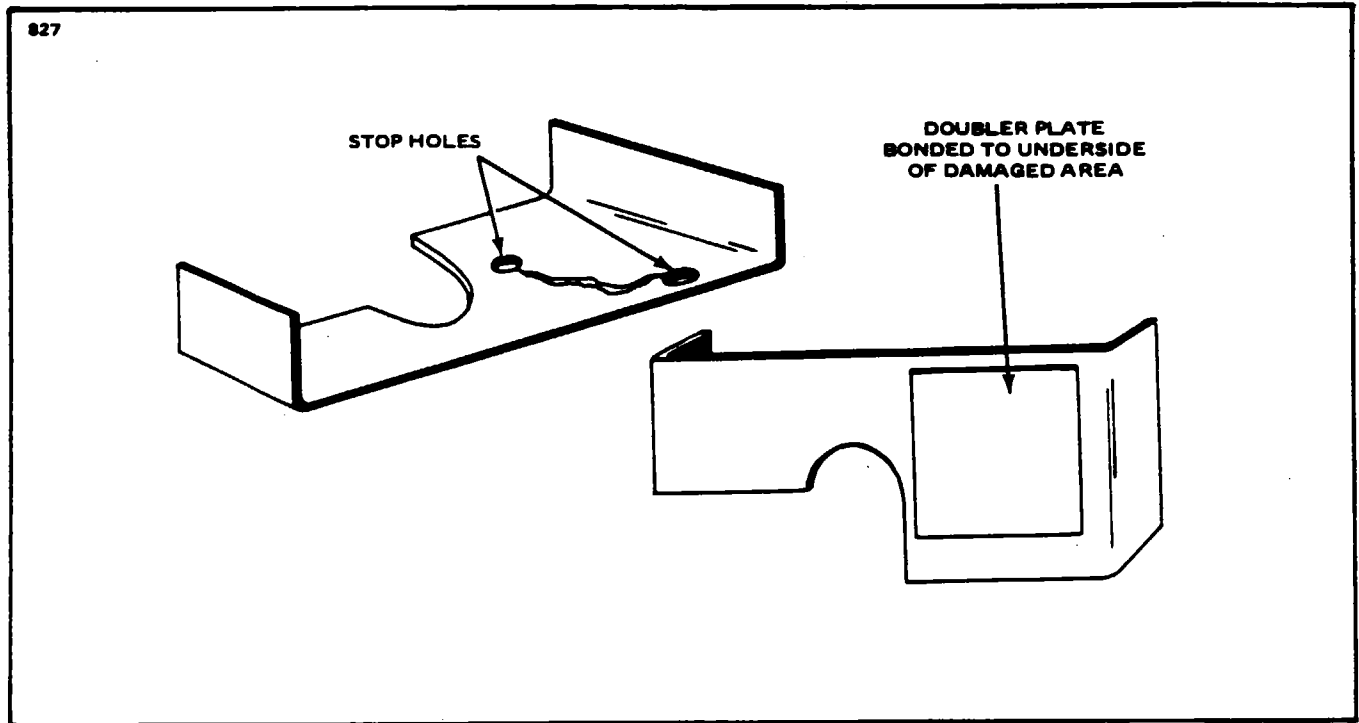

Figure 4-27. Repairing of Cracks
- d. Cracks: (Refer to Figure 4-27.)